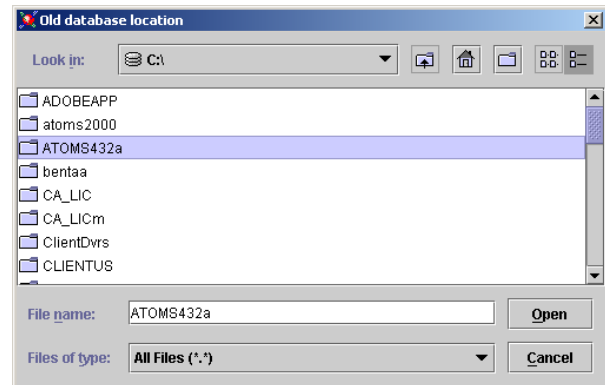

Figure 4-24. Old Database Location Window
- 1) From the splash screen, select **Utilities, Convert Legacy data, Convert Legacy data**. The **Old database location** window appears (Figure 4-24).
- 2) The **Old database location** window appears (Figure 4-24).